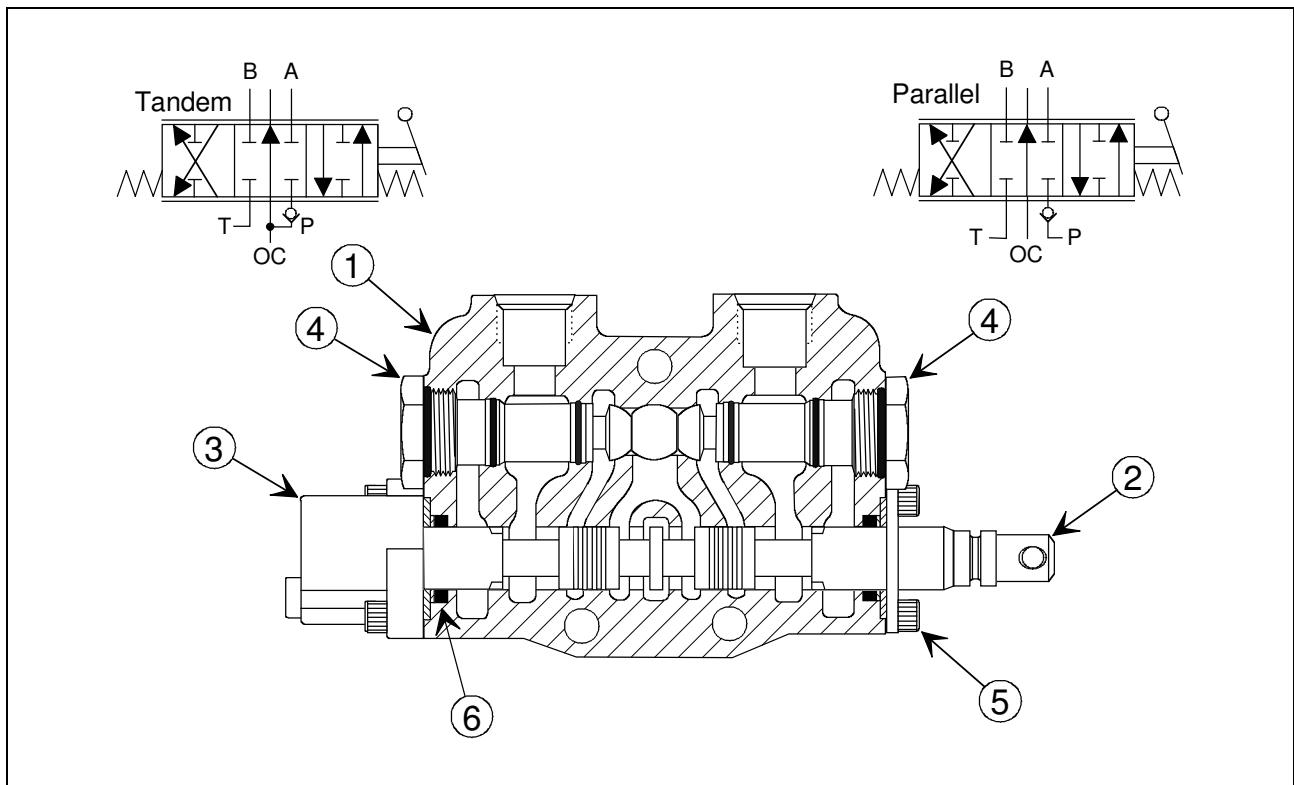

Figure 24. 4-Way, 3-Position Parallel & Tandem Work Sections (Tandem Housing Shown Here)
| 5 | 12742001 | K-6030 Load Check Plug Assembly (See Figures 24 thru 25 for Options) ⑥ | 2 |
| 4 | 12742001 | K-6030 Load Check Plug Assembly (See Figures 24 thru 25 for Options) | 2 |
| 4 | 06638001 | K-6024 Lockout Check Plug Assembly (See Figure 24) | 2 |